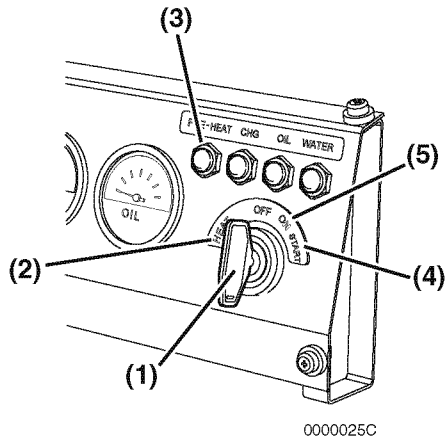

Figure 3
7. Insert the key into the key switch (Figure 2, (1)) or (Figure 3, (1)).
8. Turn the key to the ON position (**Figure 2, (2)**) or the HEAT position (**Figure 3, (2)**). The pre-heat indicator (**Figure 2, (3)**) flashes for several seconds and then goes out. After the pre-heat indicator goes out you can start the engine.
9. Turn the key clockwise to the START position (**Figure 2, (4)**) or (**Figure 3, (4)**). Release the key as soon as the engine starts. It will return to the ON position (**Figure 2, (2)**) or (**Figure 3, (5)**).